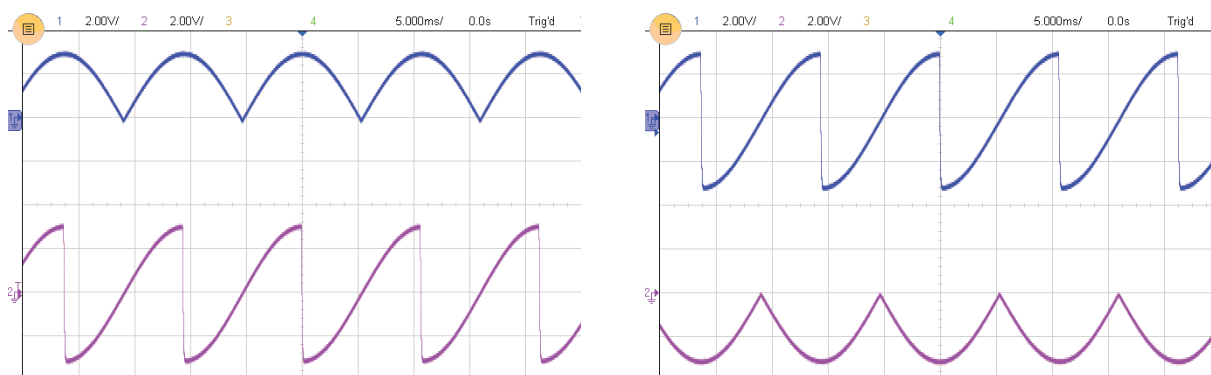

Figure 1.1: Mixer waveforms at 0° (left) and 90° phase shifts (right).
4. Turn the **Time Constant** knob counterclockwise to the *min* position. Adjust the scope for 2 V per vertical division, and around 5 ms per horizontal division, and adjust the trigger. You should see a fully-rectified positive sine wave on channel 1 (X), and the rising half of a sine waveform on channel 2 (Y), as shown in Figure 1.1.
5. Press the Quadrant [+90° up] button once. Channel 1 (X) now shows the signal 90° out of phase with the reference signal, and channel 2 (Y) shows a negative fully-rectified sine wave (you may need to re-adjust the triggering). See Figure 1.1.